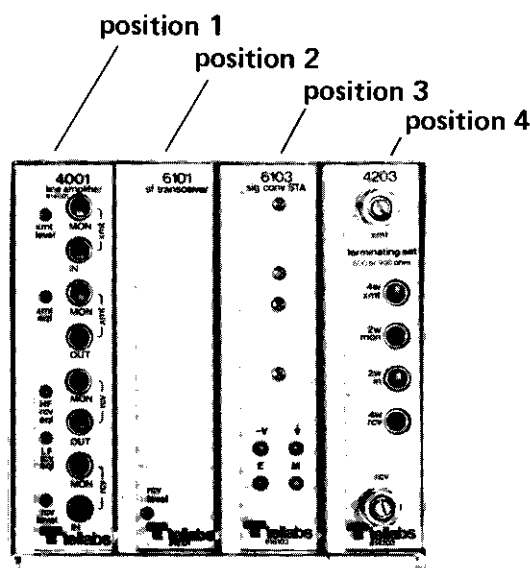

figure 3. Module mounting enclosure with position numbers
1.05 Specific modes of operation are determined by the module selected for each position. Each position in the shelf accommodates a choice of two or more modules, or may, in some applications, be left unoccupied. See figure 3 and table 1.